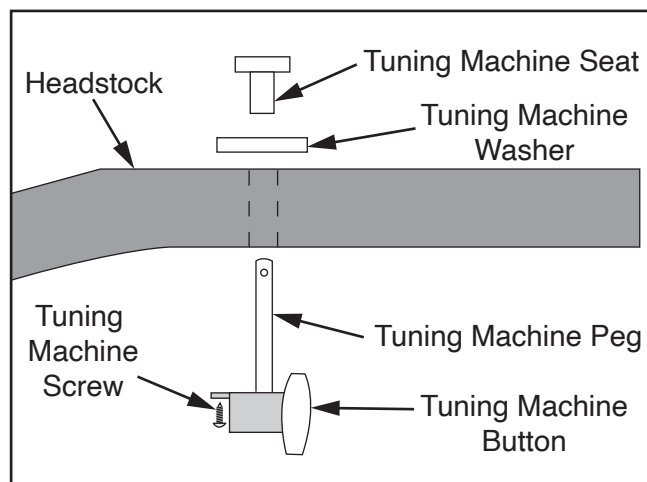

Figure 23. Tuning machine components.
The supplied tuning machines are mirrored pairs: two for the left side of the headstock, two for the right. Each tuning machine consists of the parts shown in **Figure 23**.
1. Using a non-marring mallet, tap each of (4) machine seats with washers into pre-drilled holes on front of headstock.
2. From back of headstock, slide tuning machine through headstock and seat (see **Figure 23**).